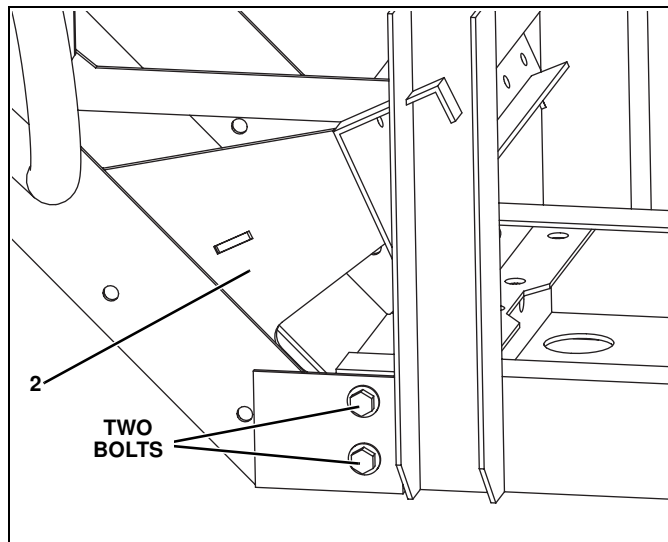

Figure 2
2. Slide the Driver Side Bracing Weldment (#2) behind the brush guard and place it against the inside of the brush guard while also aligning the two bolts through the holes in the Driver Side Bracing Weldment. (See Figure 2.)